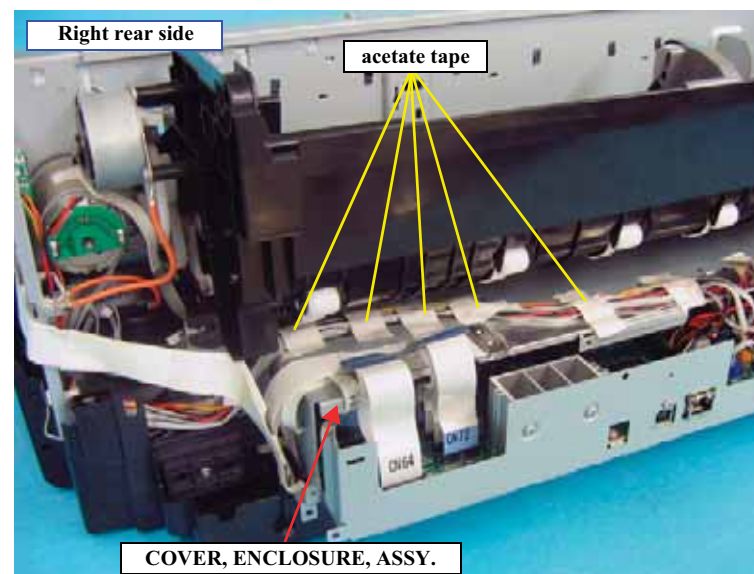

Figure 4-130. Releasing the PAPER, DETECTOR, ASSY. (PE SENSOR) Cables
4. Remove the acetate tapes on the COVER, ENCLOSURE, ASSY. to release the cables of the PAPER, DETECTOR, ASSY. (PE SENSOR). See Figure 4-130.
Route the cables of the PAPER, DETECTOR, ASSY. with other cables and secure them with the acetate tapes as shown in Figure 4-130.